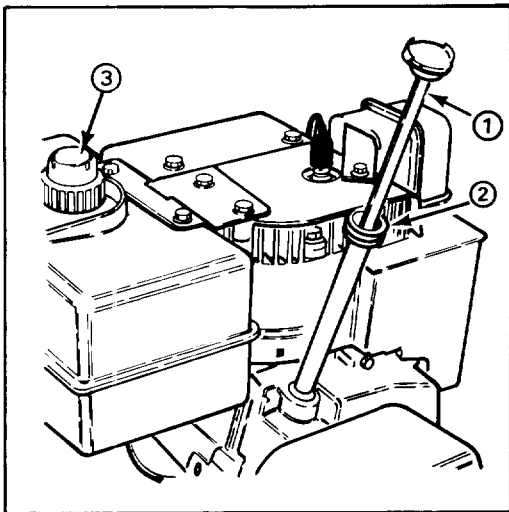

Figure 8
### FILL CRANKCASE WITH OIL (Fig. 8)
1. Clean area around the fuel tank cap (Fig. 8). Remove cap from fuel tank and fill tank to within 1/2" (13 mm) from the top with unleaded regular gasoline. Reinstall fuel tank cap.